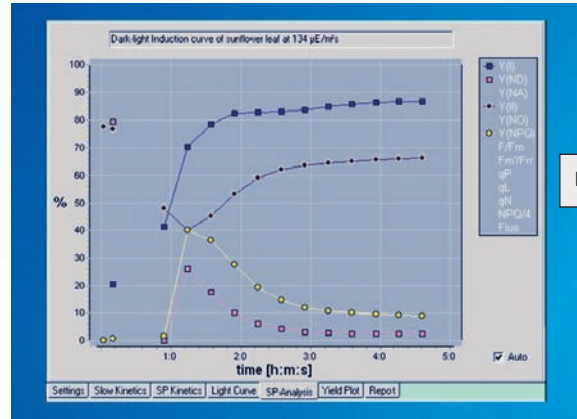

Fig. 3
▶ Saturation Pulse Analysis (Fig. 3)